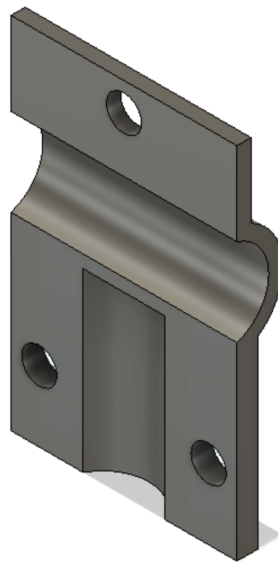

Figure 3: End effector allowing us to connect the two rods in a T-shape
1. First, put together the system. Attach the two rods together in a T-shape using the provided screws and the end effecters seen in Figure 3. Next place the bottom end of the vertical rod in the bearing, and attach the bearing in the correct space in the top of the base. Attach the mass hanger to the provided ring, and slip on one end of the horizontal rod. **Ensure the connection ring is tightened securely before operating the system.**